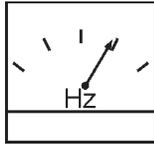

Figure 43. Frequency Meter
7. The generator's frequency meter (Figure 43) should be displaying the 60 cycle output frequency in **HERTZ**.